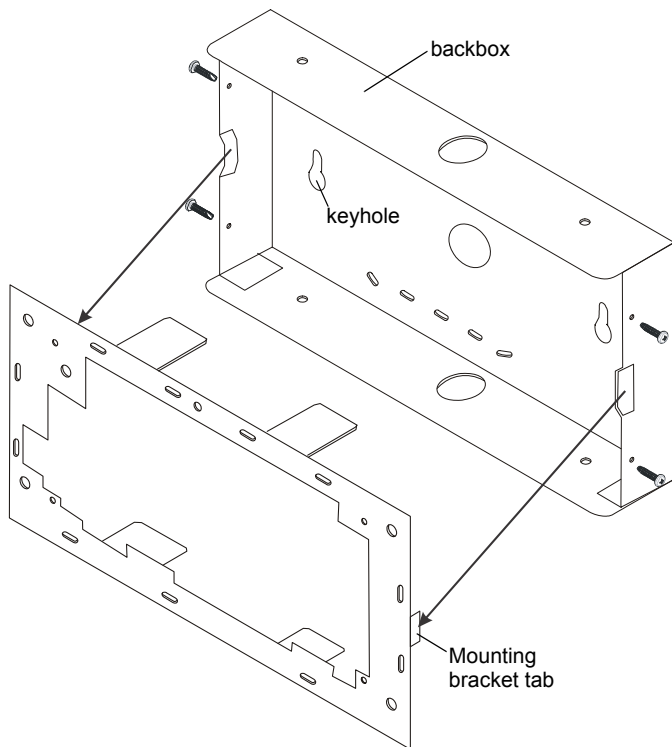

Figure 3 Mounting Bracket and Backbox
1. Remove the four (4) screws securing the metal cover to the module's backbox, remove the cover with clear plastic screen and set aside.
2. Remove the rubber display/label holder, N-ANN-(R)LED module and mounting bracket as a single unit by sliding the two tabs on the side of the mounting bracket, away from the backbox (refer to Figure 3).